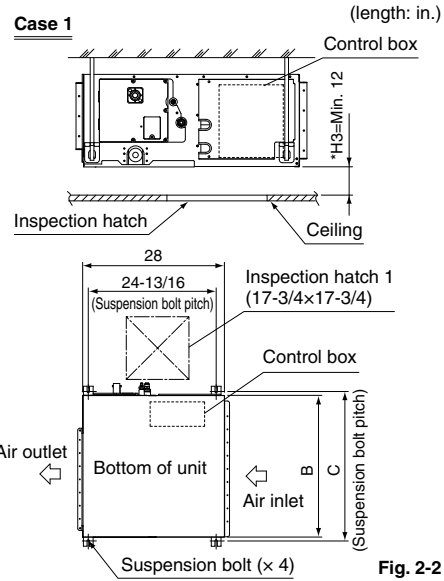

Fig. 2-2
1. Inspection hatch 1 (17-3/4 × 17-3/4) for the control box and a minimum space of 12 in. for the lower part of the product. (Refer to Fig. 2-2)